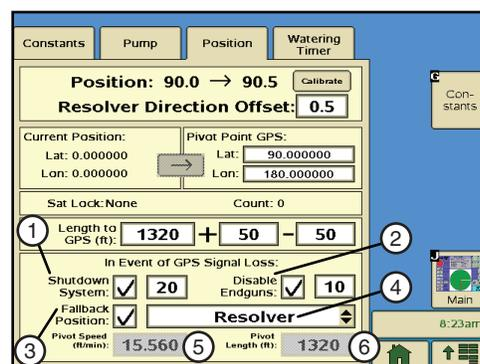

Figure 41-1 1. Shutdown System
1. On the Position tab, check the **Shutdown System** checkbox. See Figure 41-1.
1. On the Position tab, check the **Disable Endgun** checkbox. See Figure 41-1.
1. On the Position tab, check the **Fallback Position** checkbox. See Figure 41-1.